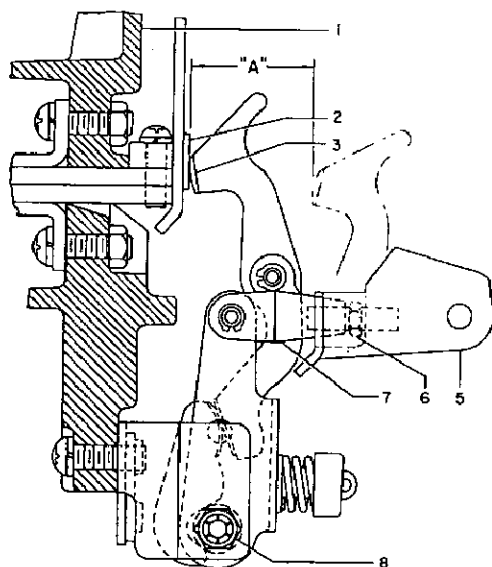

Fig. 6 — Contact Adjustment for Type K-225 Circuit Breakers
Type K-225 Circuit Breakers (Refer to Fig. 6)
2. Contact pressure is set by adjusting stud (6) for $1\frac{3}{4}$ inches, plus or minus $1/32$ inch open air gap measured at "A". Any adjustment of contact pressure must be followed by step 3.
3. Following the slow close procedure, slowly close the circuit breaker until the first contacts (2 and 3) just touch. The other two poles should be within .032 inch of touching. If not within .032 inch, then adjust stud (6) of these two poles in the direction to increase pressure until all three poles touch within .032 inch.
"If for any reason the breaker is disassembled and the contact structure Figures 6 and 7 is replaced or disassembled, the torque of the nut ((8) Figures 6 and 7)) should be checked. This should be adjusted to be between 15 and 25 foot pounds. This will provide sufficient side pressure on the hinge joint so the joint will be capable of adequately carrying its current rating."
"If for any reason the breaker is disassembled and the contact structure Figures 6 and 7 is replaced or disassembled, the torque of the nut ((8) Figures 6 and 7)) should be checked. This should be adjusted to be between 15 and 25 pounds. This will provide sufficient side pressure on the hinge joint so the joint will be capable of adequately carrying its current rating."